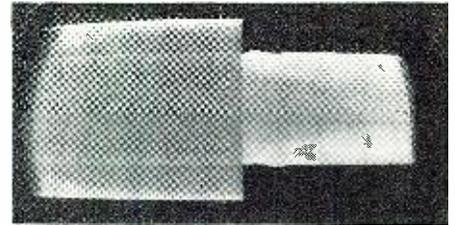
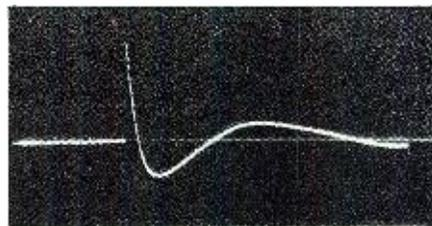
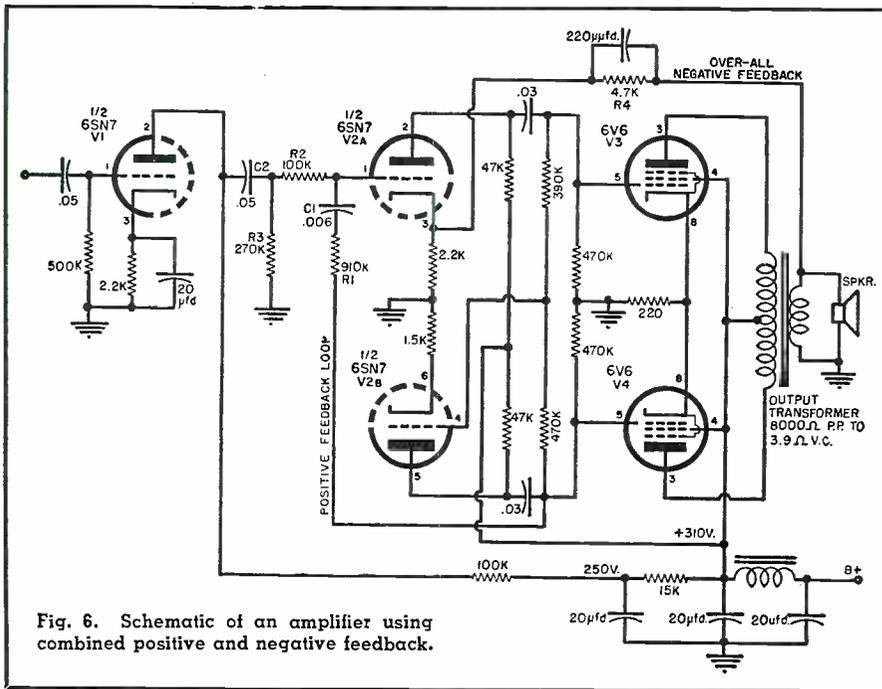

Fig. 7. Overload recovery, 2 sec. sweep.
Fig. 10. Response to a step function with a half-second sweep. See details in text.
Fig. 6. Schematic of an amplifier using combined positive and negative feedback.
Fig. 10 shows the response to a step function on a $\frac{1}{2}$ second sweep. This shows that the disturbance is highly damped and is reduced to negligible amplitude in less than $\frac{1}{3}$ second. Fig. 7 shows the overload recovery of the amplifier on a 2 second sweep. Again the perturbations are small and are damped out in less than $\frac{1}{3}$ second. The perturbations shown are very small compared to those produced in most speaker systems. Another indication of excellent transient response is the oscillogram, Fig. 11, which shows a 5 kc. sine wave switched at a 1250 cycle rate. Fig. 13 shows that frequency response has not been sacrificed to attain this stability. To demonstrate stability under unfavorable conditions, the amplifier was operated using only one output tube with the output terminals open-circuited. It is stable under these conditions even when the one tube is driven to overload.
Table 1. Performance data for the amplifier whose schematic is shown in Fig. 6.
The positive feedback can also be included in standard amplifiers in a number of other ways. A typical practical circuit of a complete amplifier using combined positive and negative feedback, which has been built and thoroughly tested, is shown in Fig. 6. Except for the use of the combined feedback, this circuit is quite conventional in design, and may be preceded by any desired low-level amplifier and tone control circuits. It consists of one stage of amplification, a two-stage self-balancing phase inver-
Fig. 7. Frequency response and output voltage regulation of amplifier shown in Fig. 6. (A) Frequency response, .5 watt into a 3.9 ohm loudspeaker. (B) Voltage regulation (in decibels) with a 1 volt output into a 3.9 ohm loudspeaker.